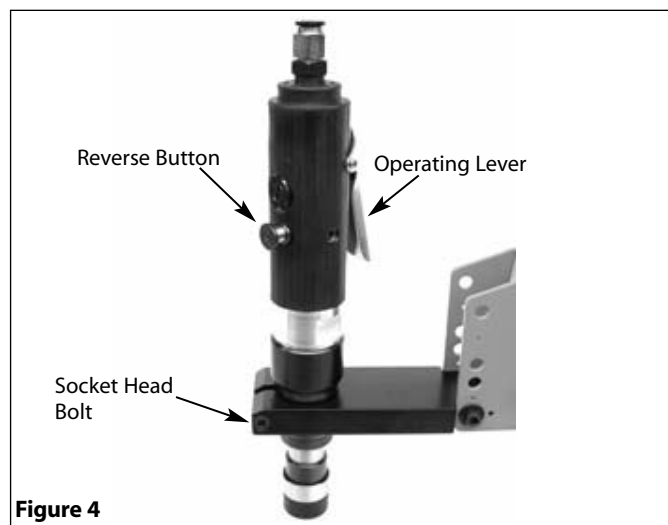

Figure 4
Refer to Figure 4.
Refer to Figures 4, 5 and 12.
- Spindle motor speed can be adjusted by turning the screw above the reverse button (see Figures 4 and 5).